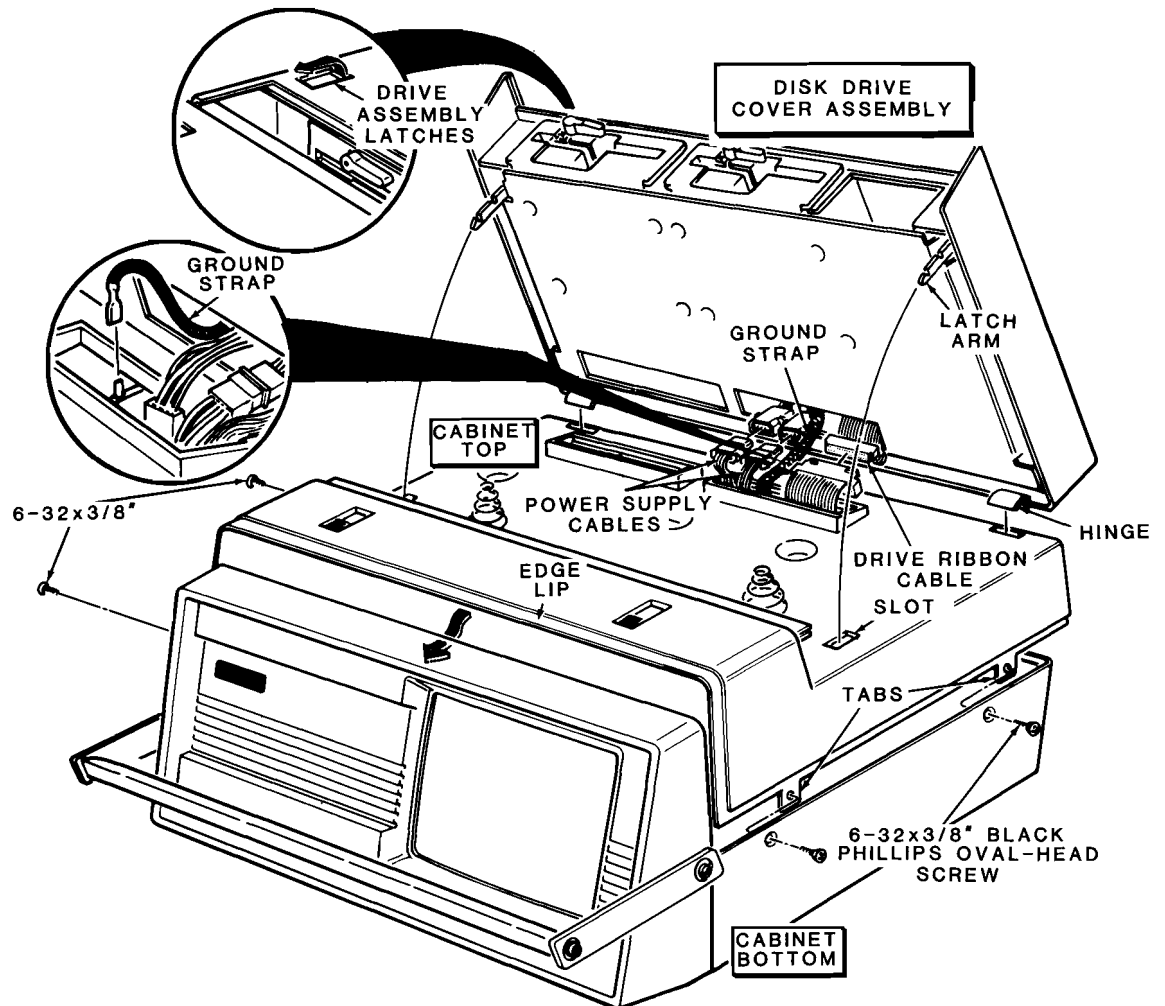

Figure 2.9. Z-160 Reassembly
- Refer to Figure 2.9. Push the drive ribbon cable and the power supply cable(s) through the cutout in the cabinet top.